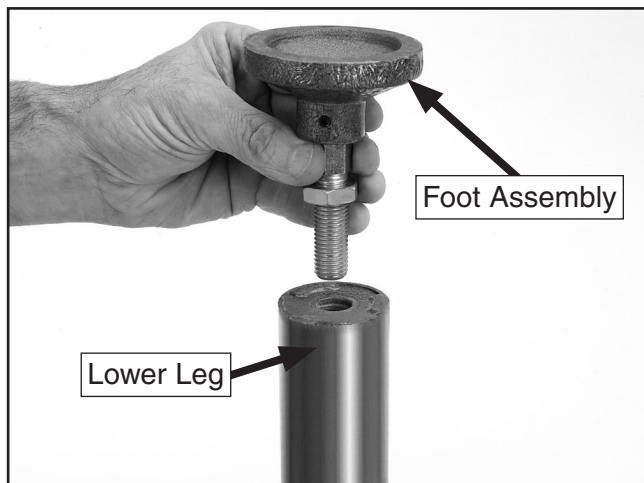

Figure 12. Foot attachment.
2. Thread one foot assembly into one of the lower legs, as shown in **Figure 12**. Repeat for the other seven feet.